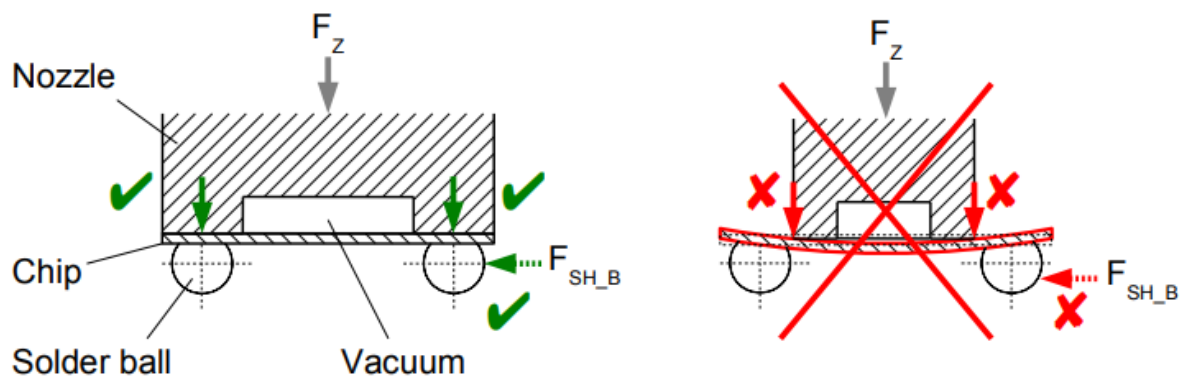

Figure 5: Pick-and-place; left: good nozzle, good picking; right: bad nozzle, bad picking.
Picking and placement parameters must be well controlled due to the chip thickness of $50\mu\text{m}$. High stress during pick or place, especially in the z-axis, may lead to chipping of the thin dies. The following specifications of the pick-and-place tool were used in the verification of this assembly process, refer to Figure 5:
- must have the same size as the chip, maximal contact area on the chip. Refer to Figure 5.
In order to reduce stress on the chip, it is advised that the nozzle has maximal contact area on the chip. The nozzle has to bring the F_z force evenly distributed vertically to the center of the solder balls during picking and placing. Refer to Figure 5, left picture. It means that it should be large enough so that it picks the chip not just in the middle of the part but also in the area above the solder balls.
Bending of the chip is not allowed, nor caused by picking or placing forces nor by the vacuum of the nozzle. Refer to Figure 5, right picture.